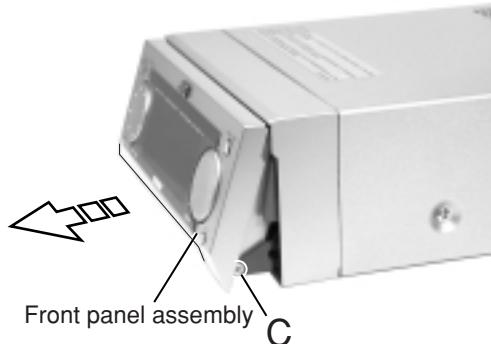

Fig. 2
■ Removing the front panel assembly (See Fig.2 to 5)
1. Pull out the lower part of the front panel assembly manually as shown in Fig.2 and 3.